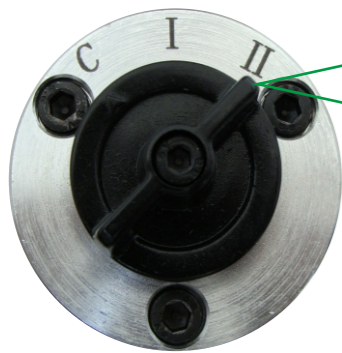

Fig. 7 Gas ballast valve knob
In the presence of permanent gases, the gas ballast valve knob (5/ Fig.1) should be switched off (as Fig.7 gas ballast valve knob arrow C below). It may cause the rise of ultimate pressure (decrease of ultimate pressure) if open the gas ballast valve (5/ Fig.1).
- When the vacuum system contains a small amount of condensable gas, open the gas ballast valve (refer to Fig 7. gas ballast valve arrow I or II) , It can pump a small amount of condensable gas effectively. Close the gas ballast valve when the vacuum system pressure reduced to a certain value.